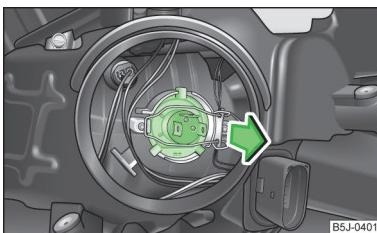

Fig. 155
- Remove the connector from the bulb, unlock the securing clip and remove the bulb » Fig. 155.